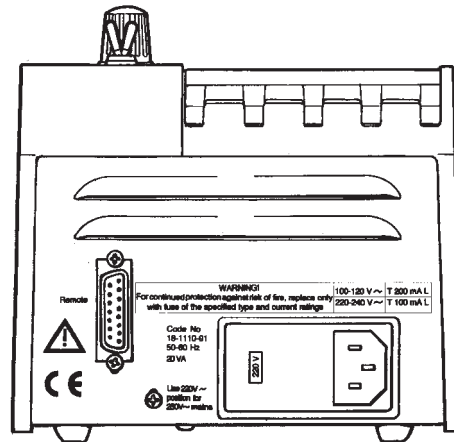

Fig 3. The side panel
2. Remove the yellow warning label covering the fuse/voltage selector the rear panel (Fig. 3).